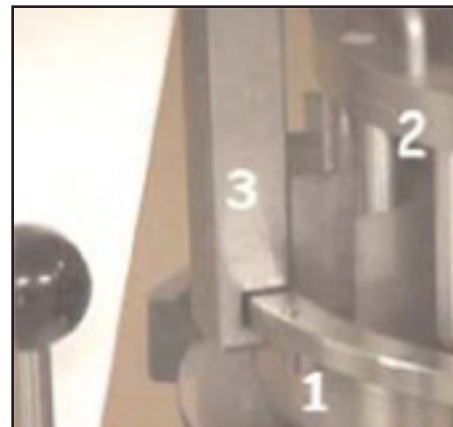

Figure 16
- Set ring (Fig. 16, No. 1) on center of pallet.
- Lower handle slowly and align ring (No. 1) with head (No. 2) continue down with handle, align ring slots with arms (Fig. 16, No.3).